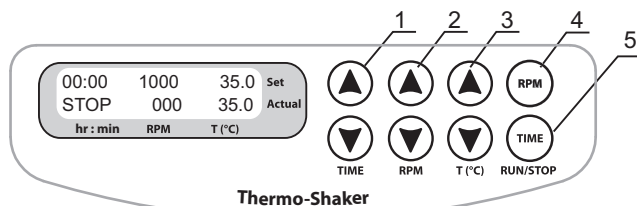
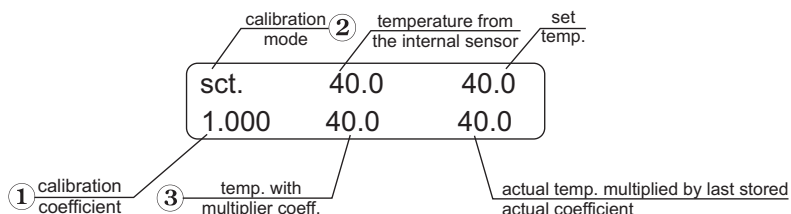

Fig.3 Control panel
Fig.5 Control panel in calibration mode
- 4.3. **Setting time (TIME).** Using the ▼ and ▲ keys (Fig. 3/1) set the required working time interval in hours and minutes (increment - 1 min). Pressing the key for more than 3 s will increase the increment.
- 4.4. **Setting speed (RPM).** Using the ▼ and ▲ keys (Fig. 3/2) set the required speed (increment 10 rpm). Pressing the key for more than 3 s will increase the increment.
- 4.5. **Setting temperature (T °C).** Using the ▼ and ▲ keys (Fig. 3/3) set the necessary temperature (increment 0.1°C). Pressing the key for more than 3 s will increase the increment.
- 4.7. Press the **RPM-RUN/STOP** key (Fig. 3/4). The thermoblock will start rotating and the timer indicator will start counting up the time interval (with 1 min precision).
- 4.10. If required, there is possibility to restart the timer when it is running. Press the **TIME-RUN/STOP** key once (Fig. 3/5) to stop the timer. Press the **TIME-RUN/STOP** key again to restart the timer.
- 5.2. To enter the calibration coefficient, hold the **TIME-RUN/STOP** key (Fig. 3/5) pressed for more than 8 sec to activate calibration mode. The calibration coefficient will be shown on the display (Fig. 5/1).
- 5.3. Set 1.000 value using the ▲ and ▼ keys (Fig. 3/3) as shown on Fig. 5/1 to restore the factory settings.
- 5.9. Hold **TIME-RUN/STOP** key (Fig. 3/5) pressed for more than 8 sec. to activate calibration mode. The following parameters will be shown on the display (Fig. 5):
Using the **Temp.** “▲” and “▼” keys (Fig.3/3), change the calibration coefficient (Fig.6A/1) so, that the new temperature value (Fig.6A/2) corresponds to the autonomic sensor temperature. In our example the calibration coefficient will be 0.974 (in range: 0.936 up to 1.063; increment 0.001).
- 5.11. After finishing the calibration press the **RPM-RUN/STOP** key (Fig.3/4) once to save the changes and exit the calibration mode.